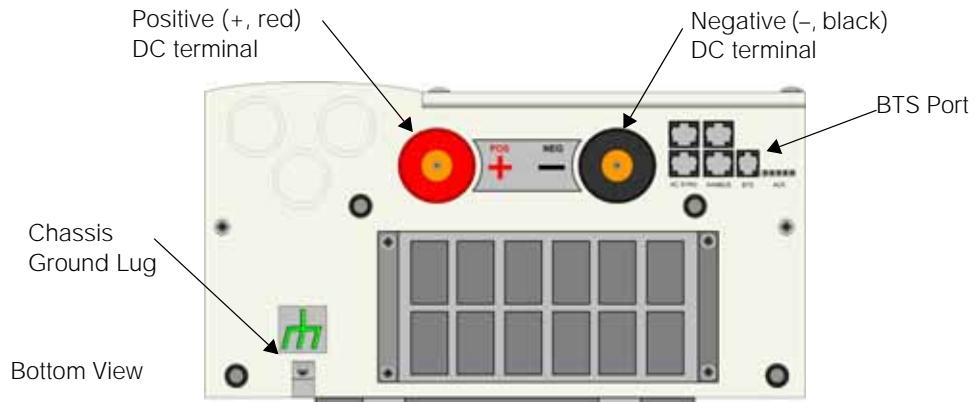
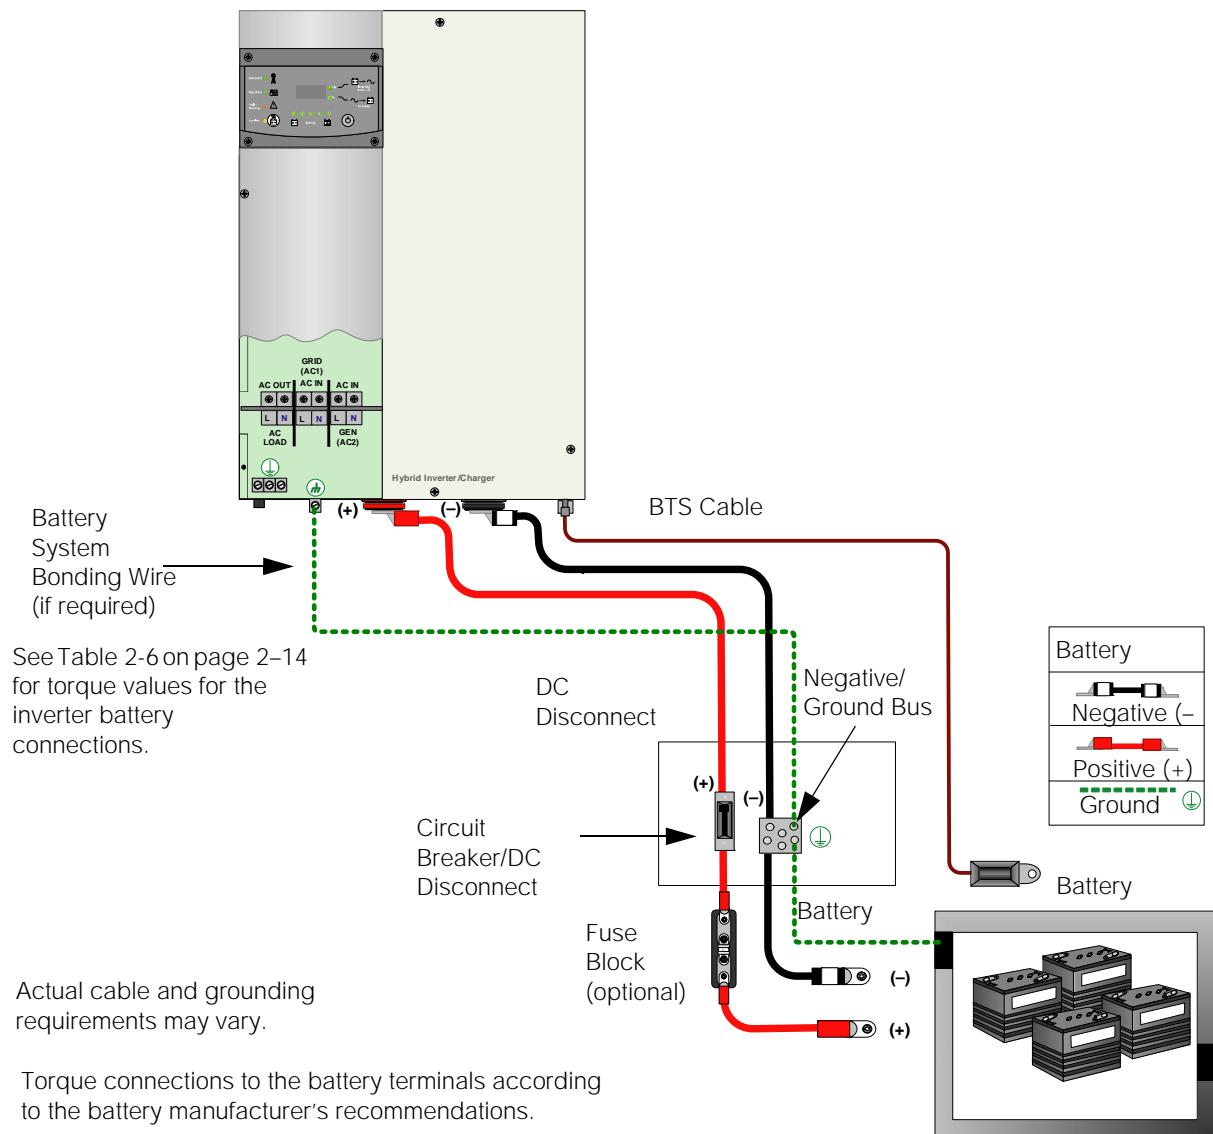

Figure 2-9 Xantrex XW Inverter/Charger DC Connections
Figure 2-11 DC Connections to a Single Inverter
2. Install a DC fuse and disconnect switch or a DC circuit breaker between the inverter/charger and the battery. They must be installed in the positive side of the DC circuit, as close as possible to the battery. See Figure 2-9, "Xantrex XW Inverter/Charger DC Connections" on page 2-16. This protects your battery and wiring in case of accidental shorting. Before proceeding, make sure the DC disconnect switch is open or that the DC circuit breaker is turned off.
1. Insert the Battery Temperature Sensor plug into the BTS port. See Figure 2-9 and Figure 2-11.